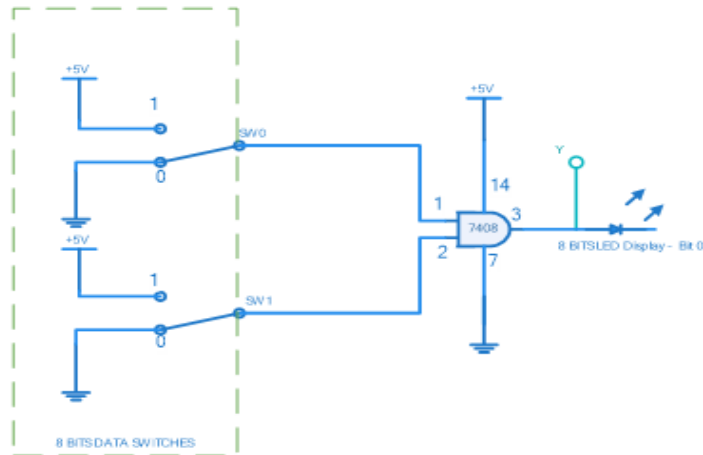

Figure 4
1. Connect the circuit as shown in figure 4. The IC used in this experiment contains four identical and independent AND gates and only one of them is used.
2. The input for the AND gate is obtained through logic switches Sw0 and Sw1. The output of the AND gate is connected to a Logic monitor (LED) which lights up red (1) when there is a high output condition and green (0) when there is a low output condition.